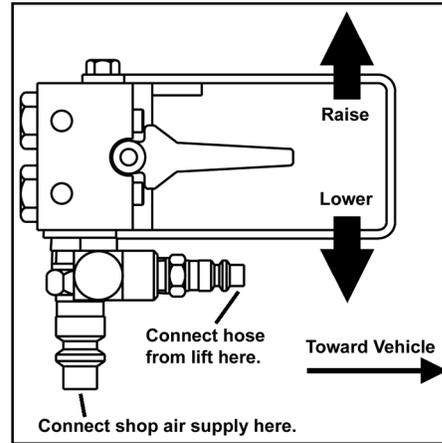

Fig. 3: Air control lever
8. Position yourself at the front or rear of the vehicle so both lifts are visible. Face the vehicle and hold the air control unit with the air control levers pointing toward the vehicle and the quick couplers on the underside of the air control unit. (See figure 3 for orientation).
9. Connect the air hose from the lift on your right to the right side of the air control unit. Connect the air hose from the lift on your left to the left side of the air control unit (see Fig. 3 for connections).
10. Connect the air supply (145 psi max) to the air inlet port of the air control unit (see Fig. 3 for connection).
5. Connect the air hose from the lift on your right to the right side of the air control unit and the air hose from the lift on your left to the left side of the air control unit (see Fig. 3).
6. Connect the air supply to the air inlet port of the air control unit (see Fig. 3).